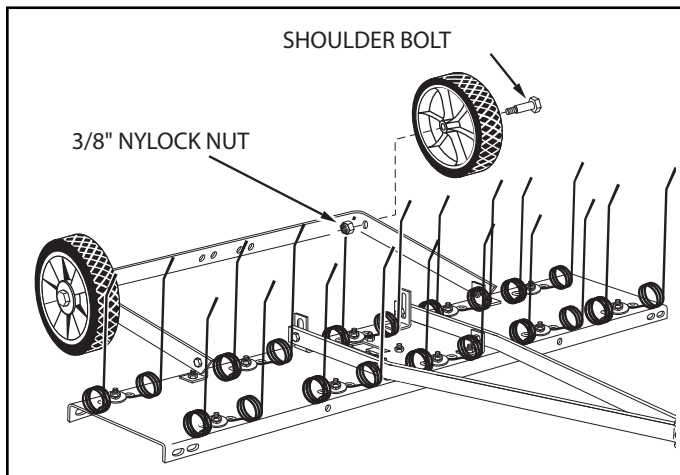

FIGURE 5
- Assemble the wheels to the axle bracket using two shoulder bolts (A) and two 3/8" nylock nuts (H). **Tighten**. See figure 5.